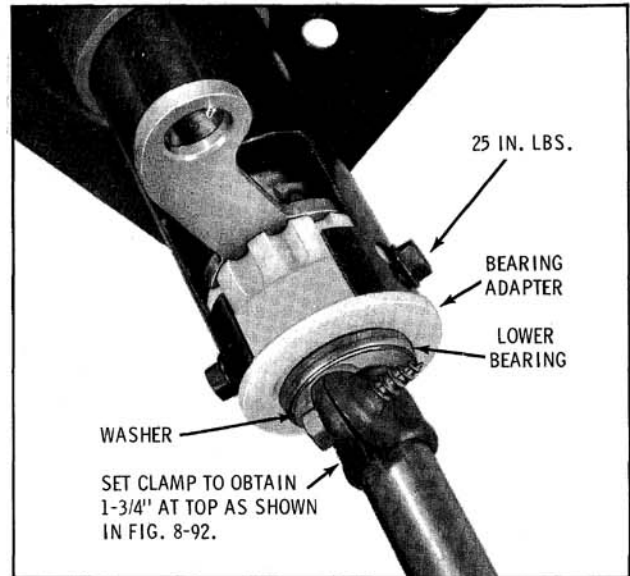

Fig. 8-88 Lower Bearing Assembly
2. Install lower bearing assembly. (Fig. 8-88)